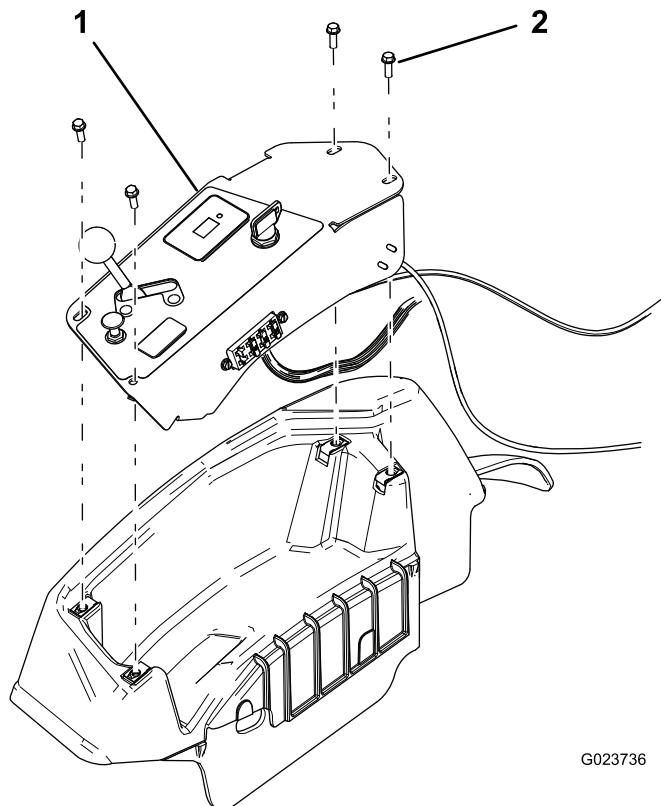

Figure 32
2. Remove the control panel (Figure 32).